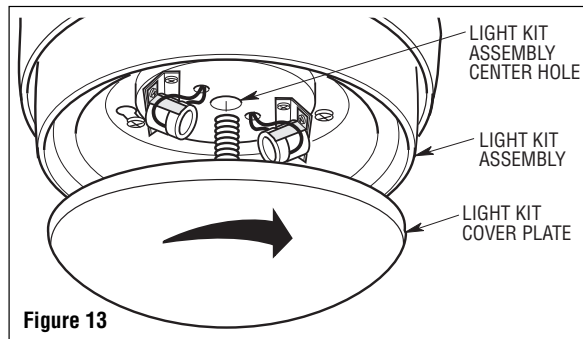

Figure 13
6. **If no light kit is to be used**, screw the light kit cover plate into the center hole of the light kit assembly. Rotate the light kit cover plate clockwise until fully installed (Figure 13).